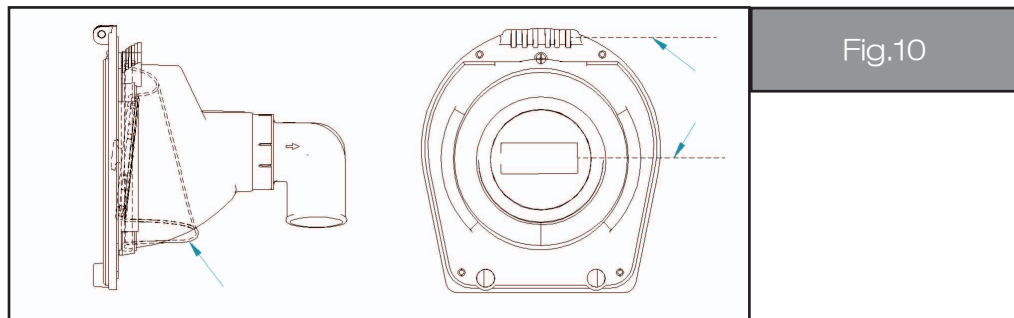

Fig.10
6. To install the new diaphragm ensure it is placed in the correct location (See fig.10). A small amount of lubricant e.g. vegetable oil applied to the edge of the diaphragm may ease installation.